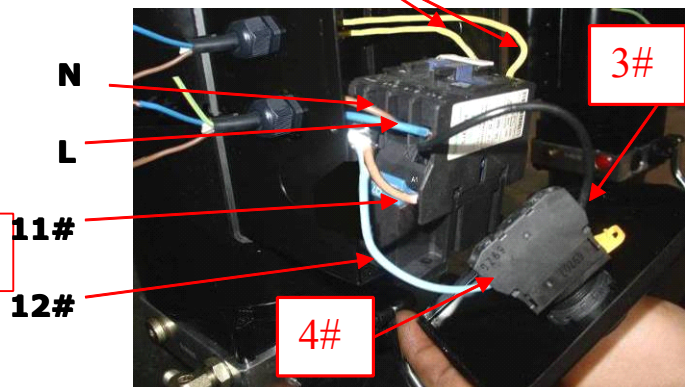

Fig. 39
4. Connecting the limit switch: Remove the line of connecting terminal **4#** of control button and **A1** of AC contactor firstly (See Fig. 38), then connect wire **12#** of limit switch with terminal **4#** of control button and connect wire **11#** with terminals **A1** of AC contactor respectively (See Fig. 39).